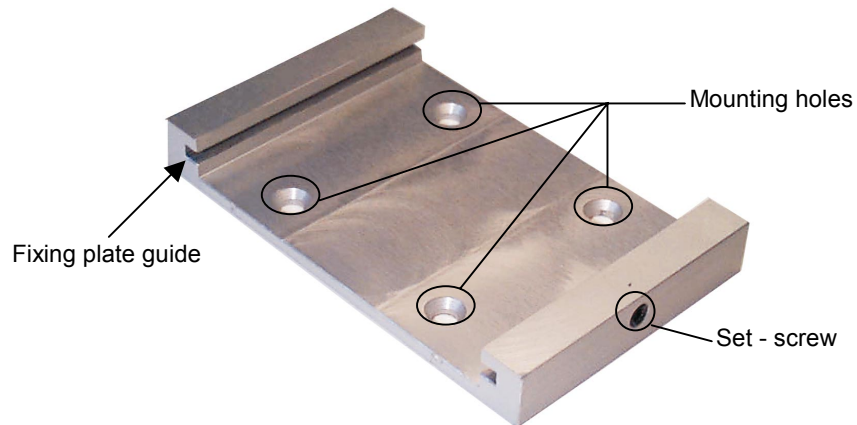

Figure 3 - Wall mounting base
5. Insert STARGATE™ (as shown in Figure 3) by sliding the fixing plate along the guide on the mounting base;